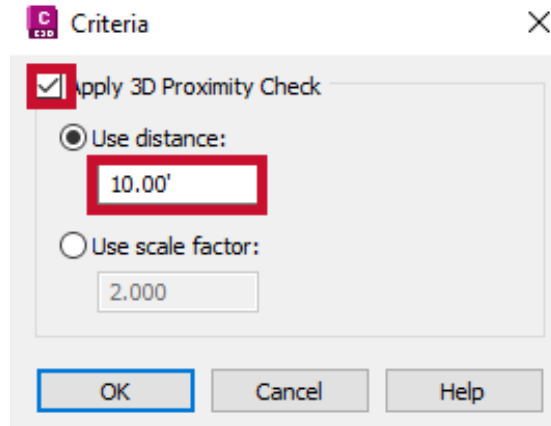

Figure 3.24 – The Criteria Proximity Check settings
5. In the **Criteria** dialog box, let's go ahead and check the **Apply 3D Proximity Check** option and set the **Use distance:** value to 10.00', as shown in *Figure 3.24*.